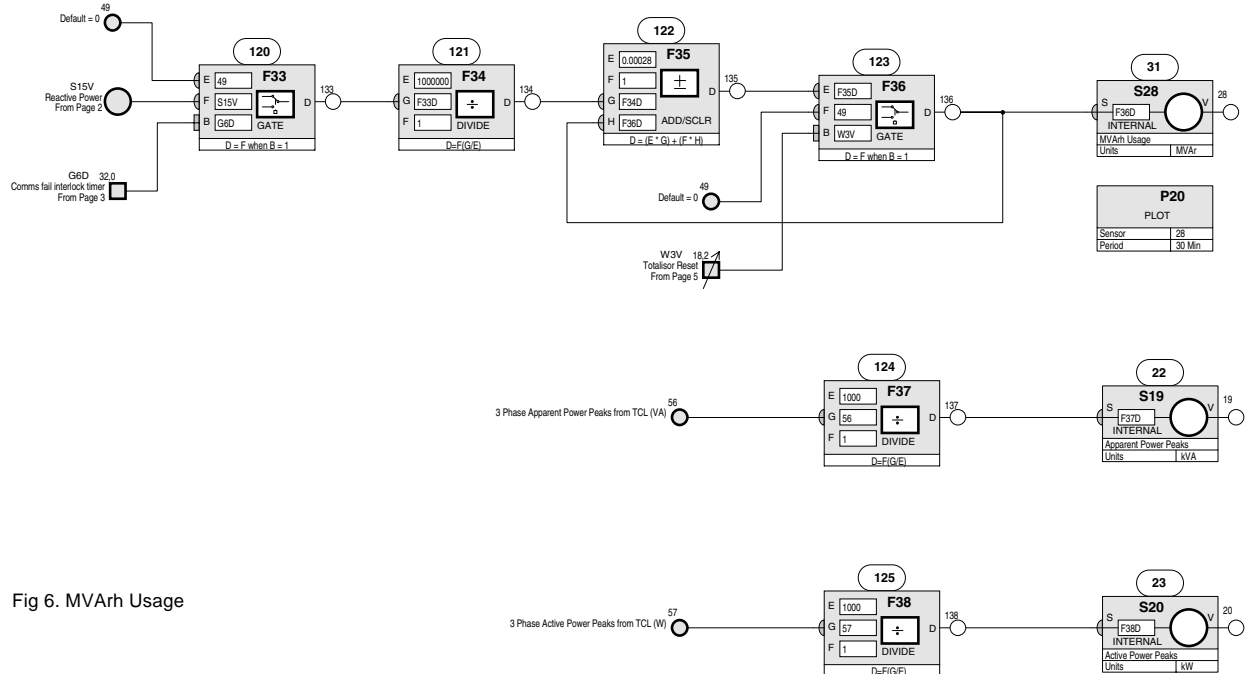

Fig 6. MVarh Usage
In Fig. 6, F33 will normally gate through S15, Reactive Power (VAr), but if the meter communications fail, it will gate through zero. The active power is divided by 1000,000 by F34, and then multiplied by 0.00028 (divided by 3600 - correct to 5 places after decimal point) within F35. The division by 3600 is to convert the MVarh value into MVarh consumed per second, and then F35 and F36 together add this to the usage total every second to produce the totalised MVarh Usage monitored by S28. Switch 3 (W3), the Totaliser Reset causes F36 to gate through zero which resets the MVarh Usage. F37 takes the 3 Phase Apparent Power Peaks (VA) from node 56 and divides by 1000 to produce the Apparent Power Peaks (kVA) monitored by S19. F38 takes the 3 Phase Active Power Peaks (W) from node 57 and divides by 1000 to produce the Active Power Peaks (kW) monitored by S20.